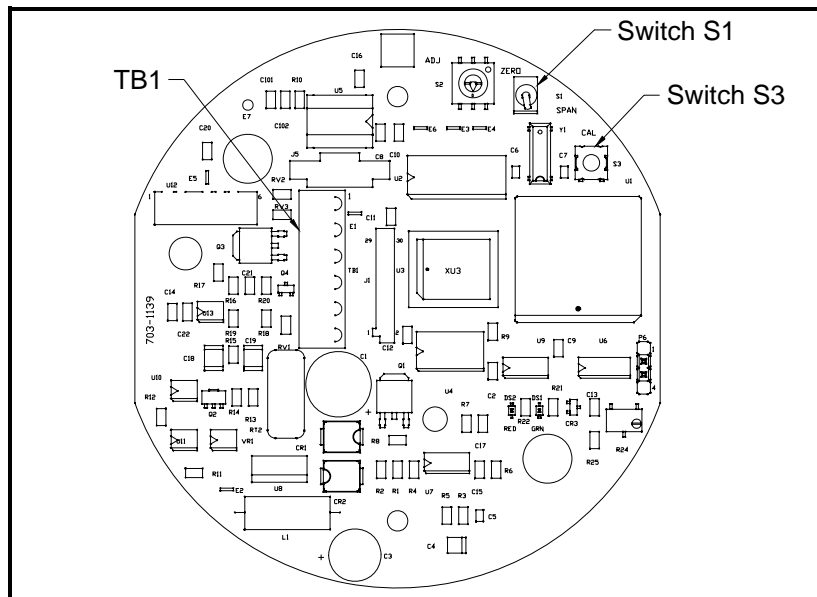

Figure 4-2: PCB #703-1139 Calibration Switches
3. Refer to Figure 4-2 on page 4-4, and locate the following items:
3. Using Figure 4-2 on page 4-4 as a guide, locate the *Calibration Pushbutton* (Switch S3). Depress the *Calibration Pushbutton* and hold it down for 20 seconds. During this time, the green light below the *Calibration Pushbutton* will go out.
2. Using Figure 4-2 on page 4-4 as a guide, locate the *Zero/Span Selector* (Switch S1). Set the *Zero/Span Selector* (Switch S1) to position "1" ("Zero").
3. Using Figure 4-2 on page 4-4 as a guide, locate the *Calibration Pushbutton* (Switch S3). Depress the *Calibration Pushbutton* and hold it down for 20 seconds.
2. Using Figure 4-2 on page 4-4 as a guide, locate the *Zero/Span Selector* (Switch S1). Set the *Zero/Span Selector* (Switch S1) to position “3” (“Span”).